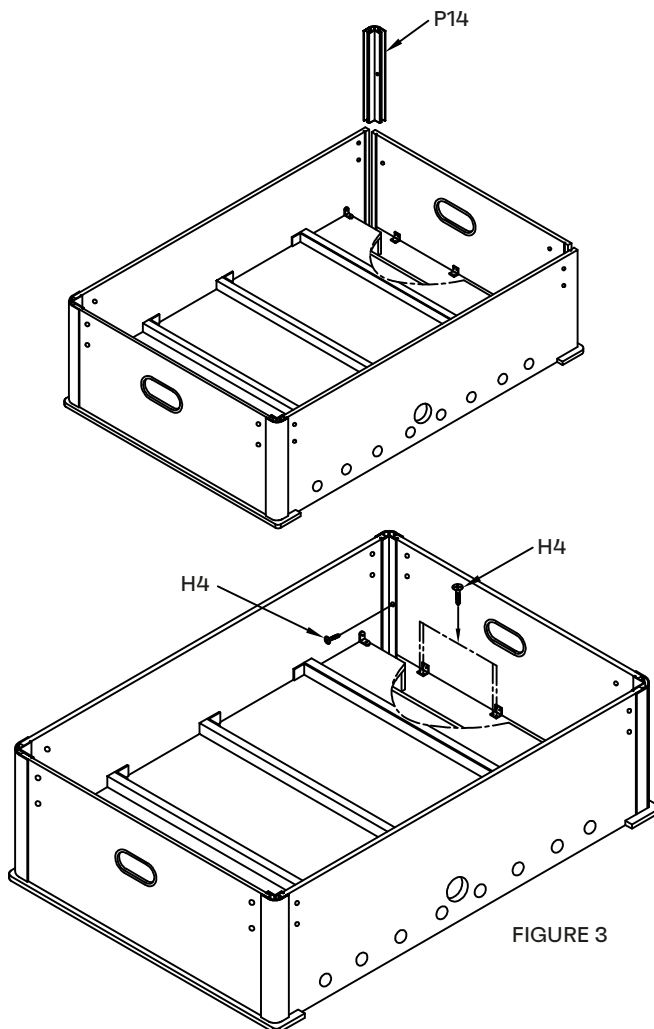

FIGURE 3
5. Insert the corner P14 to the side panels and the end panel P2C . Fixed it with screws H4 as shown in figure 3. Assembly the end panel P2C with screw H4 as shown in figure 3.